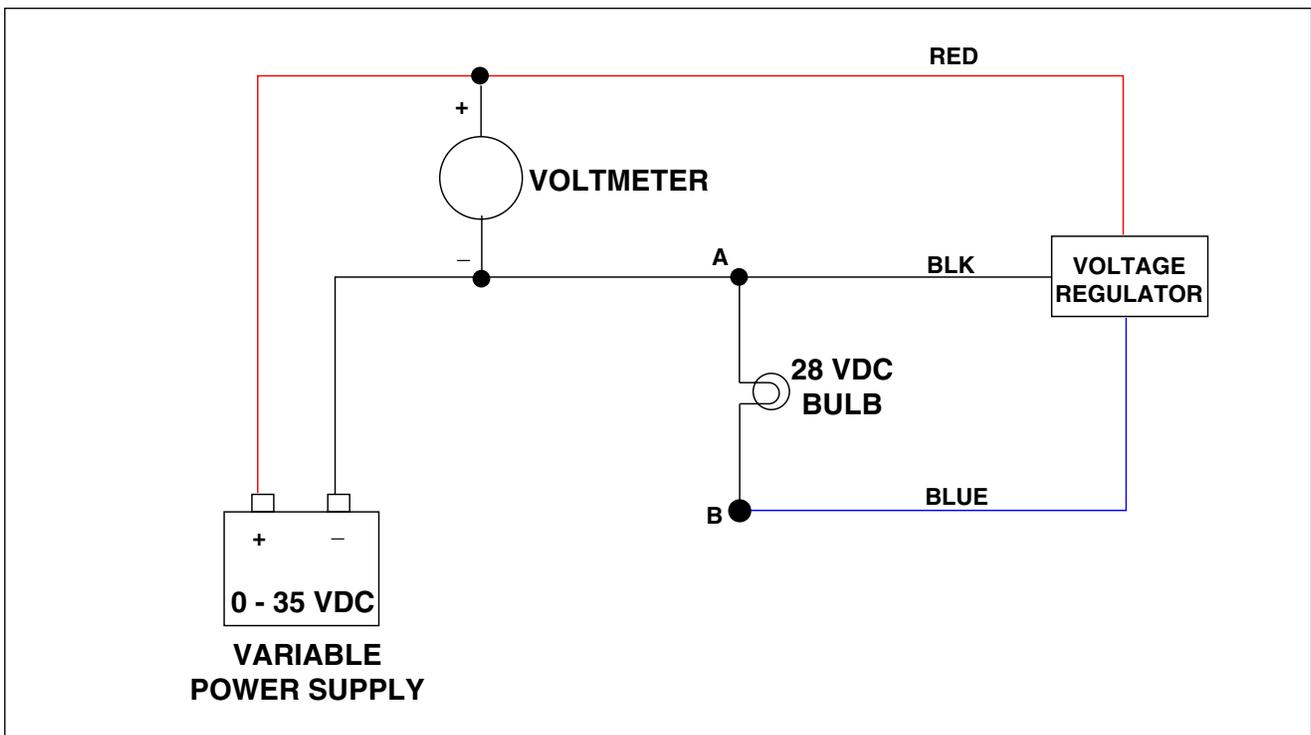

Figure 24-22. Lamar 28Vdc Regulator Check
3. Voltmeter connections (refer to Figure 24-22)